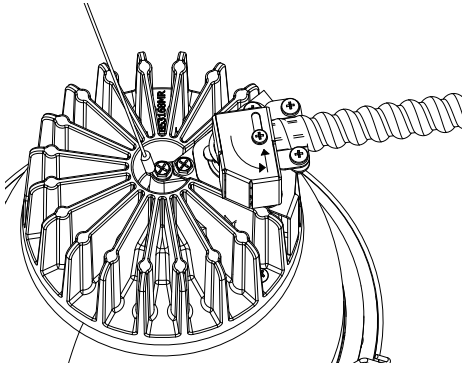

Figure 4
4. Loosen screw, rotate cover and slide forward. Tighten screw to secure. See Figure 4.